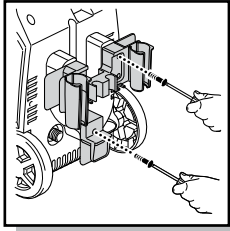
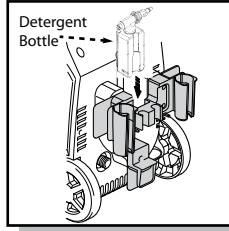

Fig. 1
Fig. 2
- Install the accessory holder on the back of your BLUE CLEAN POWER WASHER (Fig. 1). You'll notice where the accessory holder meets the back of the unit. You will see several male index posts which fit into female holes. The posts and holes enable easy placement of the accessory holder and easy tightening of the screws. Place the screws in the holes provided on the accessory holder and screw them in. Do not use a power screwdriver. When the screw is completely tight, give a small final clockwise twist of the screwdriver. Do not over tighten. After the accessory holder is installed you will notice a square area in the center of the holder where the square detergent bottle may be stored and easily retrieved (Fig. 2).
- Using one of the supplied screws, install the small electric power cord holder below the accessory holder so that the “L” - shaped holder faces downward. The electric power cord can now be wrapped around the accessory holder and the bottom “L” - shaped holder while your power washer is not in use (Fig. 1).